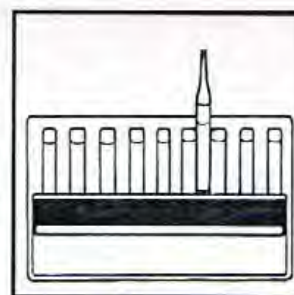

Figure 4
7. Hold the comparator in a nearly horizontal position while standing directly beneath a source of light. Place the ampoule between the color standards moving it from left to right along the comparator until the best color match is found (fig 4). If the color of the ampoule is between two color standards an estimate can be made.